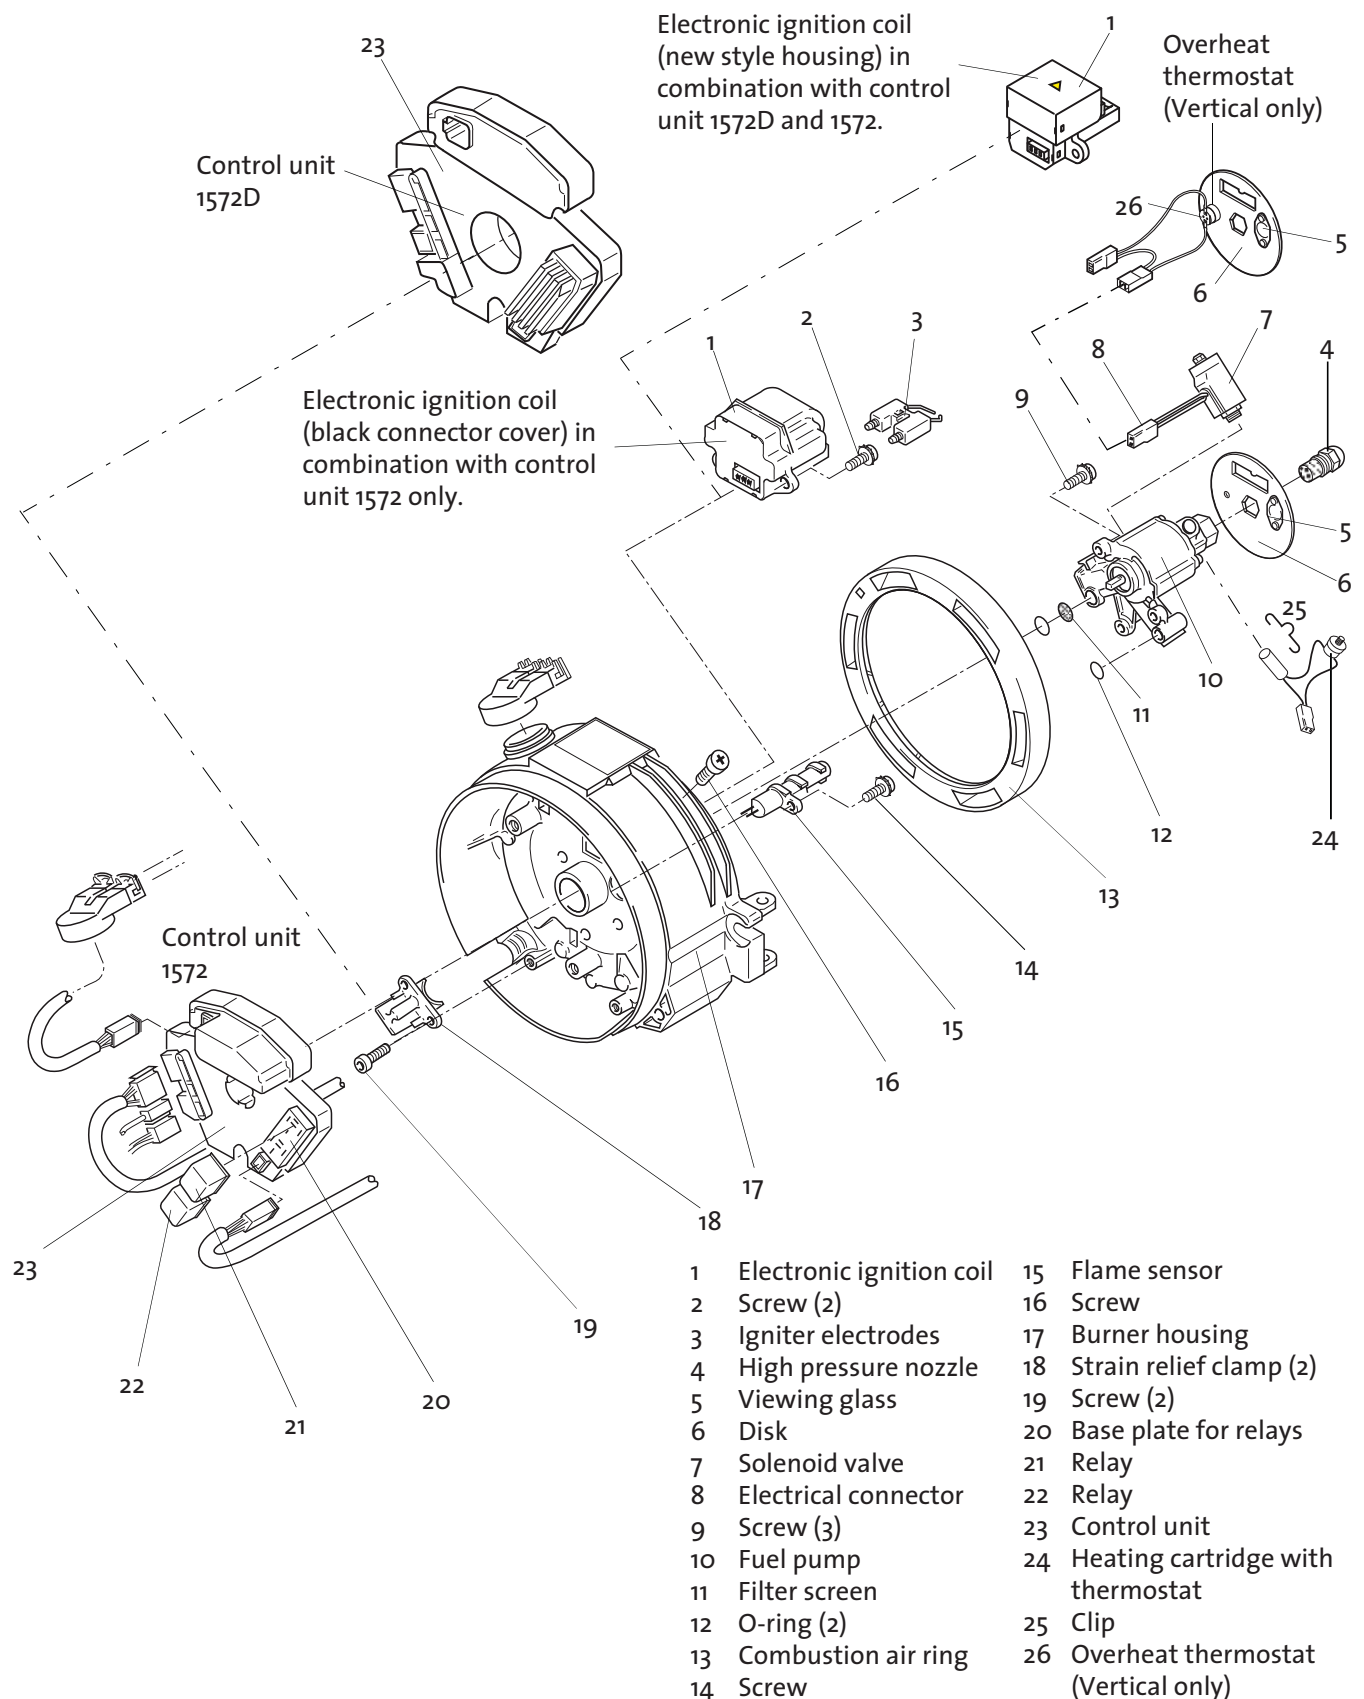

Figure 11: Control Unit and Fuel Pump, Replacement
For replacement of the control unit the burner head may be left installed and must only be swung open for disconnection of electrical connector (8, Fig. 11).
1. Disconnect all electrical connections from control unit (23, Fig. 11).
2. Swing burner head open (refer to 8.5.2) and disconnect electrical connector (8) of fuel solenoid and, if equipped, nozzle preheat (24).
5. Carefully withdraw control unit (23) in axial direction from burner head (17) and remove.
1. Carefully install control unit (23, Fig. 11) in axial direction into burner head (17) until fully seated.
3. Make all electrical connections on control unit (23).
5. Connect electrical connector (8) of fuel solenoid and, if equipped, nozzle preheat (24).
3. Remove disk (6, Fig. 11) and nozzle pre-heating cartridge (if installed) from pump (10).
4. Disconnect electrical connector (8) of fuel solenoid.
1. Install solenoid valve (7, Fig. 11) on fuel pump (10) if required.
2. Fit new O-rings (12) and filter screen (11) on fuel pump (10).
3. Position fuel pump (10) for installation and secure with screws (9) and lock washers.
5. Connect electrical connector (8) of fuel solenoid.
6. Install heating cartridge and place disk (6) into position.
7. Plug in igniter electrodes (3, Fig. 11).
2. Using screwdriver, lever off igniter electrodes (3, Fig. 11) from electronic ignition coil (1) and remove.
3. Remove disk (6, Fig. 11) with nozzle pre-heating thermostat (if installed) from pump (10).
4. While holding the nozzle holder with an 18 mm wrench, remove nozzle (4) with a 16 mm wrench or socket.
1. While holding the nozzle holder with an 18 mm wrench, screw in nozzle (4) and tighten with a 16 mm wrench or socket. Tighten nozzle to 20 Nm.
2. Place disk (6, Fig. 11) with nozzle pre-heating thermostat (if installed) into position on pump (10).
3. Plug in igniter electrodes (3, Fig. 11).